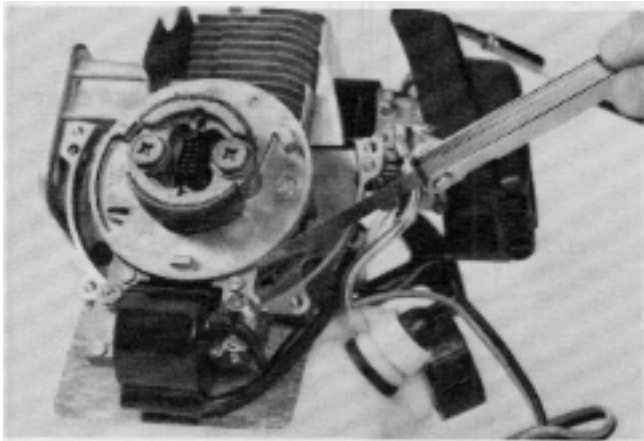

Figure 57
1. Loosen the two coil mounting screws. Position a feeler gauge between the coil and the flywheel near one of the coil mounting screws and tighten. Repeat this procedure for the other end of the coil. Air gap adjustment is now complete. See Fig. 57.